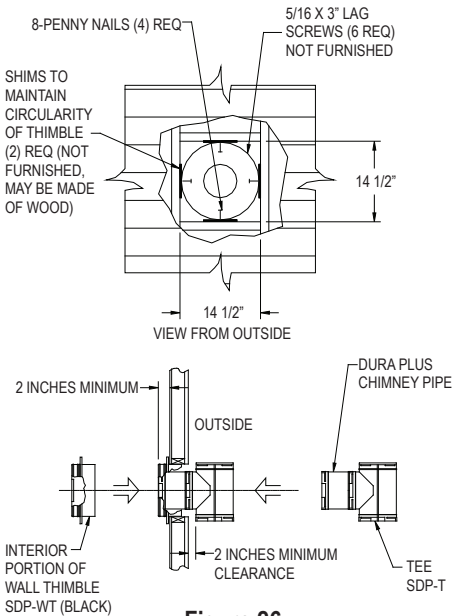

Figure 26
3. Install Wall Thimble: Insert the black section of the Wall Thimble into the opening in the wall from inside the room, and align the nail holes with the studs. (**Figure 26**). Do not nail the black thimble section at this time. Attach the Tee to a 9-inch or 12-inch Chimney Section by twisting until it is firmly locked. If the wall is less than 6 inches thick, use a 9-inch Chimney Section; if the wall is between 6 and 9 inches thick, use a 12-inch Chimney Section. From outside the building, insert the Chimney Section into the hole until the vertical part of the Tee is 2 inches away from the outside of the wall, and the black portion of the Wall Thimble and the Chimney Section protrude into the room at least 2 inches. **IMPORTANT: In order to make a safe connection, the female end of the Chimney Section must fully contact the inside face of the Wall Thimble.** Remove the